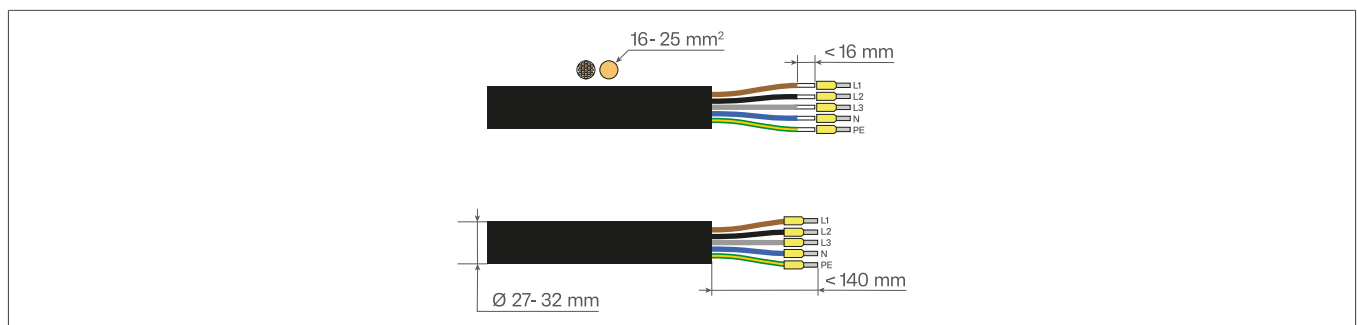

Fig. 24: Energy meter cable
- 1 Strip the sheath and cores of the cable, flexible or rigid (see Fig. 24).